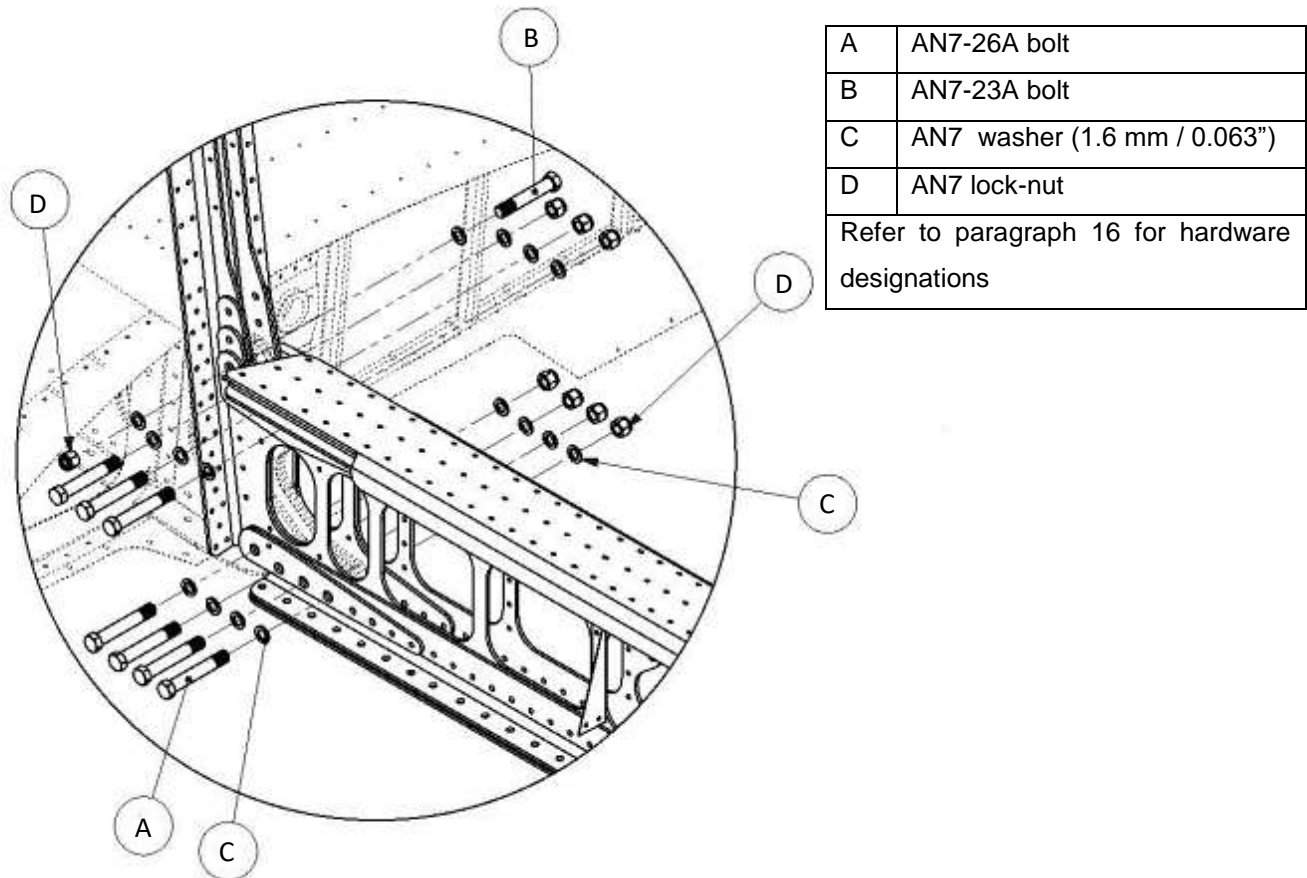

Figure 5: Front wing spar to fuselage connection.
- Tighten the main (front) spar bolts to the recommended value (refer to paragraph 1.5.2). Observe the correct placement of washers (refer to Figure 5). Note that the top bolt is mounted with its head facing the aircraft tail.